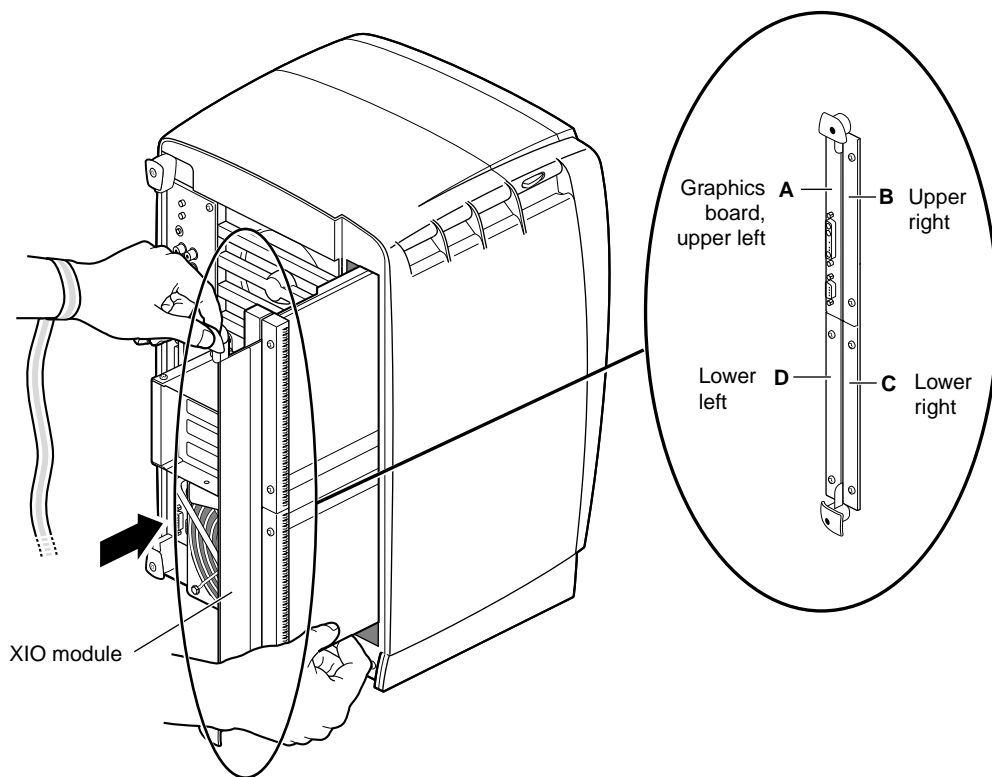

Figure 5-40 Replacing the XIO Module
2. Before you insert the XIO module, make sure the handle portion protrudes in a locked position from the I/O panels, as shown in Figure 5-40.
If the handles are flush with the I/O panels, the XIO module will stop during insertion. Pull out the handles until the sliding portion of the XIO module looks like Figure 5-40, and then continue inserting the XIO module into the chassis.